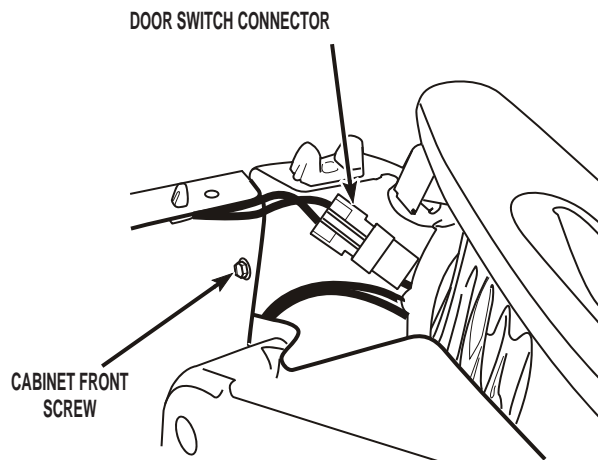

FIGURE 2
6. Remove two (2) hex head screws from the cabinet front. See *Figure 2*.